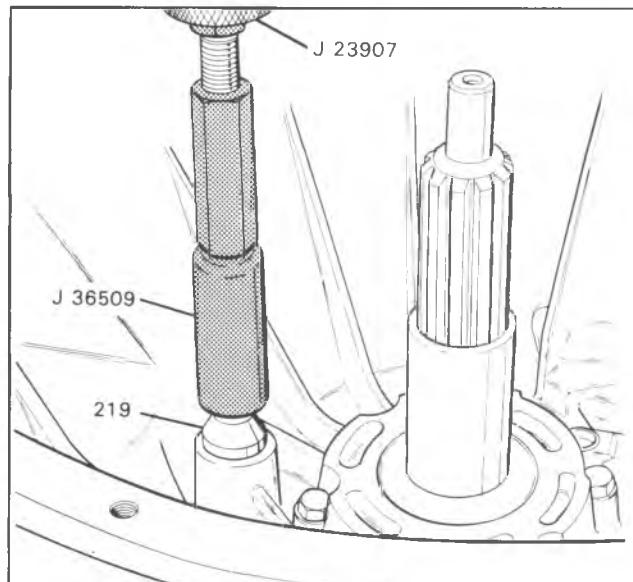
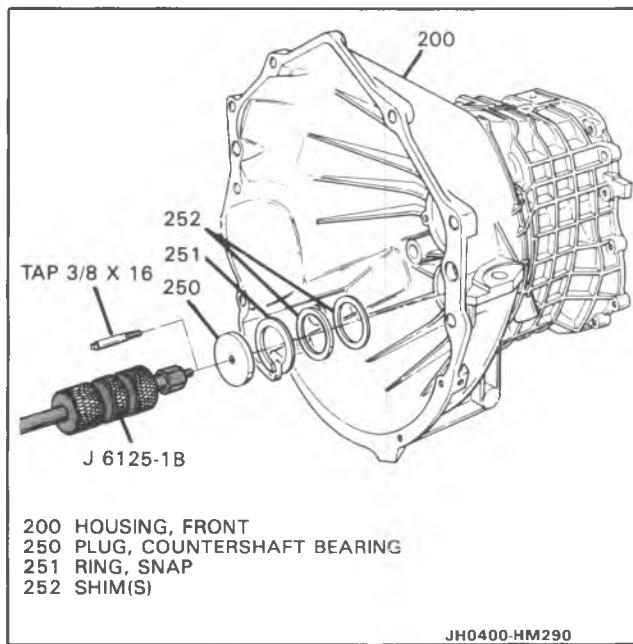

Figure 46 Removing Clutch Fork Pivot Assembly
Figure 47 Removing Countershaft Bearing Plug
3. Clutch fork pivot assembly (219), using J 36509 and J 23907 (Figure 46).
4. Shift shaft/rails plugs (221)
5. Countershaft bearing plug (250) (Figure 47).
6. Snap ring (251), shim(s) (252) and countershaft bearing race (202) using J 36799 and J 8092.
- Tap in countershaft bearing race (202) before removing snap ring (251).